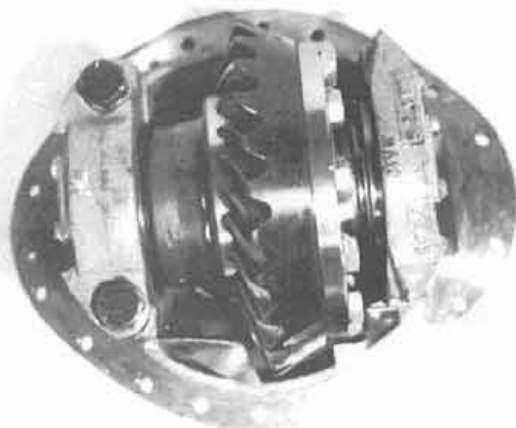

Figure 20
**Step 23** Remove the lock plate from each adjuster nut and mark the nut and housing with a center punch or chisel for position. (see figure 20)